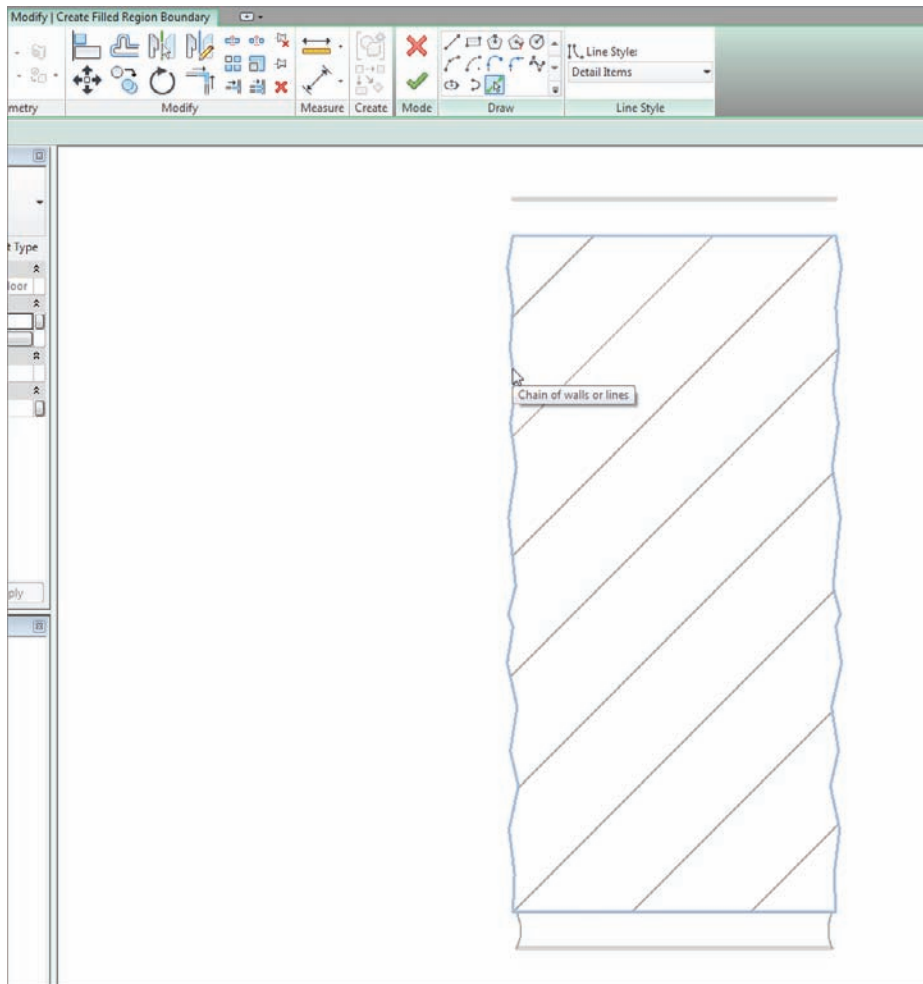

FIGURE 12.27 Press Tab to select the chain of lines, as shown here.
11. On the Draw panel, click the Pick Lines button, as shown in Figure 12.27.
13. Pick any one of the lines, as shown in Figure 12.27. Revit will draw the region based on these points.